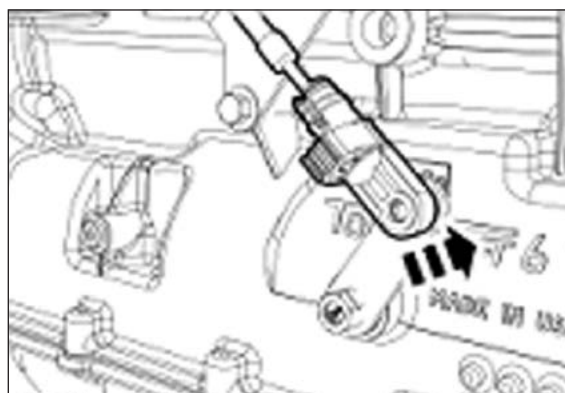

Figure 89
7. Correct the selector lever cable onto manual control lever (**Fig. 89**).